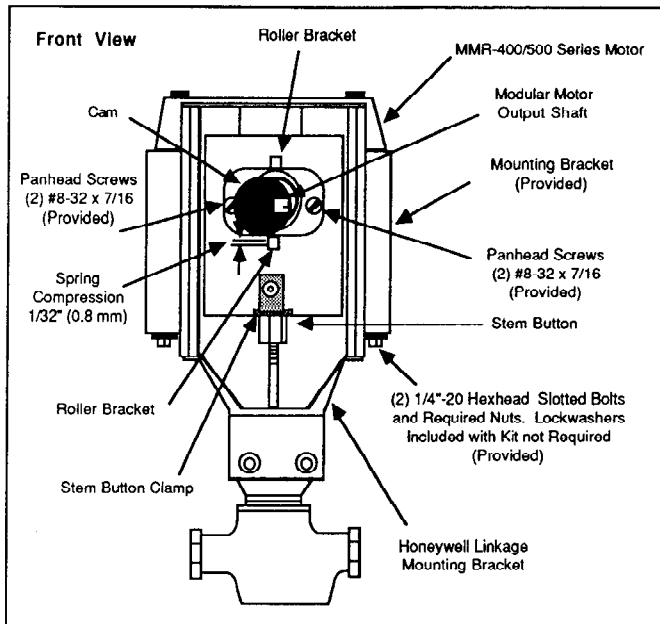

Figure 12. Honeywell Q618A Valve Linkage
8. Depress top roller of slide mechanism (See Figure 12).
9. Slip cam into linkage slide mechanism and loosely secure modular motor and adaptor bracket to motor mounting holes in Q618 linkage assembly with two (2) 1/4"-20 X 7/8" hexhead bolts.
11. Tighten the four (4) 1/4"-20 X 7/8" hexhead motor mounting bolts securely.
12. Secure linkage to valve bonnet by tightening the two (2) setscrews.